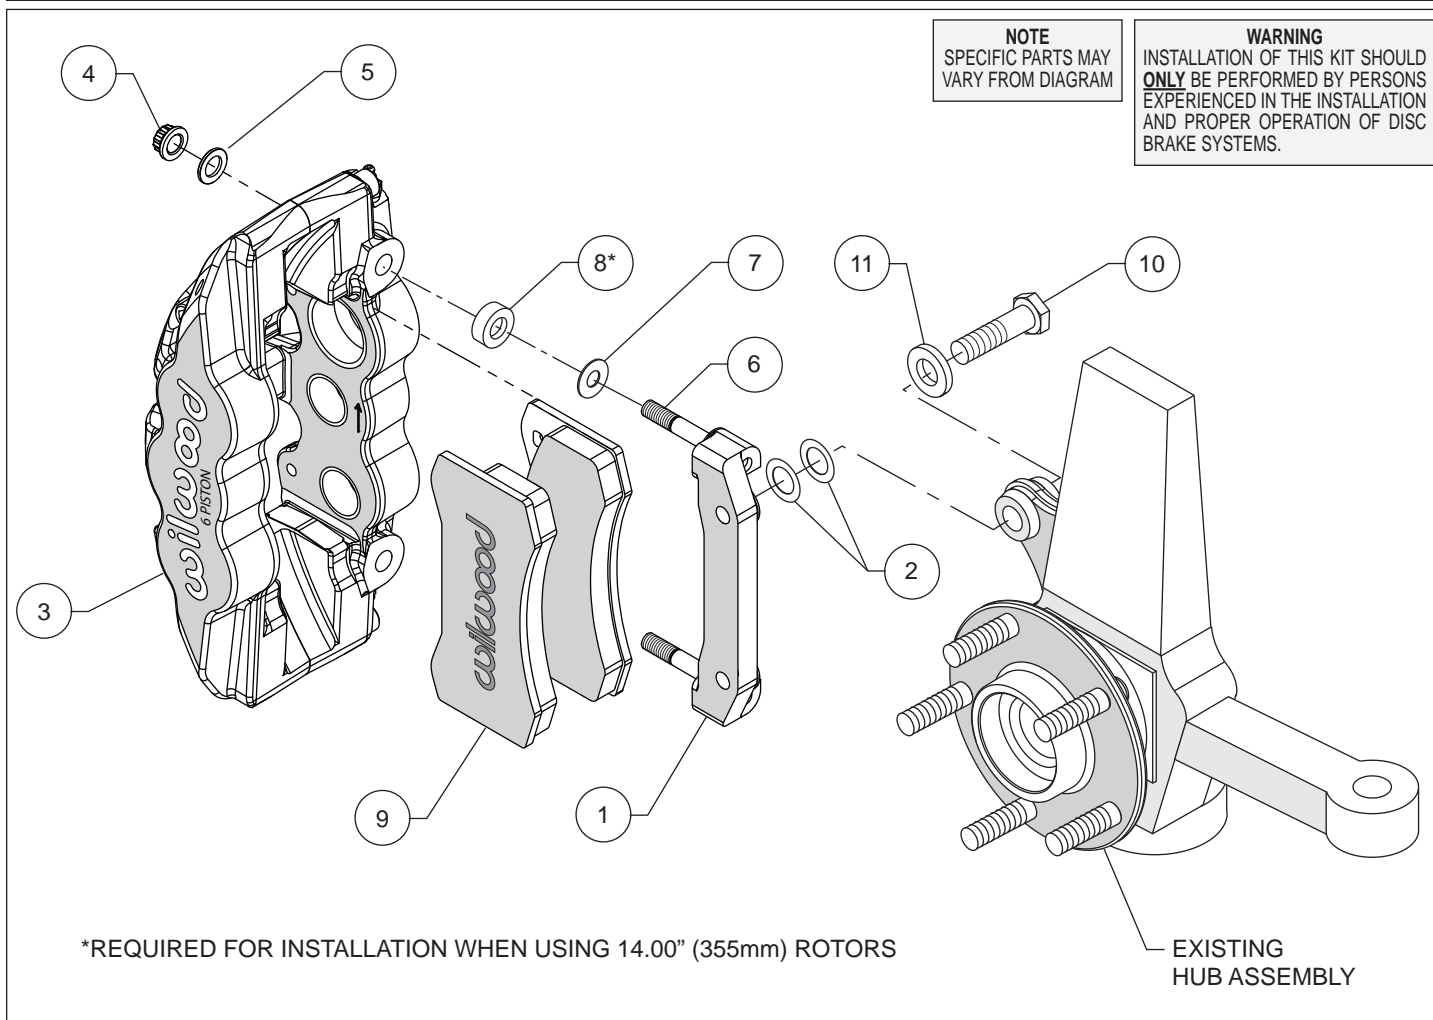

Figure 1. Typical Installation Configuration
Assembly Instructions (numbers in parenthesis refer to the parts list and Figure 1 on the preceding page):
- The caliper mount bracket (1) should initially be installed with clean, dry threads on the mounting bolts. Orient the bracket as shown in Figure 1, and install using bolts (10) and washers (11). Initially place two .029" thick shims (2) on each bolt between the bracket and upright, Figure 1. Temporarily tighten the mounting bolts. **NOTE:** *The bracket must fit squarely against the mount bosses on the upright.* Inspect for interference from casting irregularities, machining ridges, burrs, etc. Later, after the caliper alignment has been checked, the mount bolts will be secured using red *Loctite*® 271.
- **NOTE:** *This kit contains distinct right and left hand calipers that must be mounted in a specific direction, as described below.* Lubricate the caliper mounting studs (6) with lightweight oil. For 13.38" diameter rotors, initially place one .016" thick shim (7) on each stud as shown in Figure 1 and Photo 1. For 13.98" rotors, place one .300" spacer (8) on each stud prior to installing the .016" thick shim (7). Mount the caliper (3) onto the bracket (1) using lock nuts (4) and washers (5), Figure 1. Ensure that the caliper is mounted so that the largest pistons are at the rotor exit end of the caliper, in relation to the direction of rotor rotation. Temporarily tighten the lock nuts and view the rotor through the top opening of the caliper. The rotor should be centered in the caliper, Photo 2. If not, adjust by adding or subtracting shims (2) between the bracket and the upright. Always use the same amount of shims on each of the two mounting bolts. Once the caliper alignment is correct, remove the bracket mounting bolts one at a time, apply red *Loctite*® 271 to the threads, and torque to 65 ft-lb.
- Remove the two pad retaining pins from the caliper (3) by carefully popping out the pin retaining clips and sliding out the pins. Insert the brake pads (9) into the caliper from the bottom, Figure 1 and Photo 3. With the friction material facing the rotor, secure the brake pads in place with the pad retaining pins and clips, Photo 4. Reinstall the caliper onto the caliper mounting bracket and temporarily tighten the lock nuts. Check that the top of the brake pad is flush with the outside diameter of the rotor, Photo 5. If not, adjust by adding or subtracting shims (7) between the caliper and the bracket. After the caliper pad height is set, torque the caliper lock nuts (7) to 47 ft-lb.